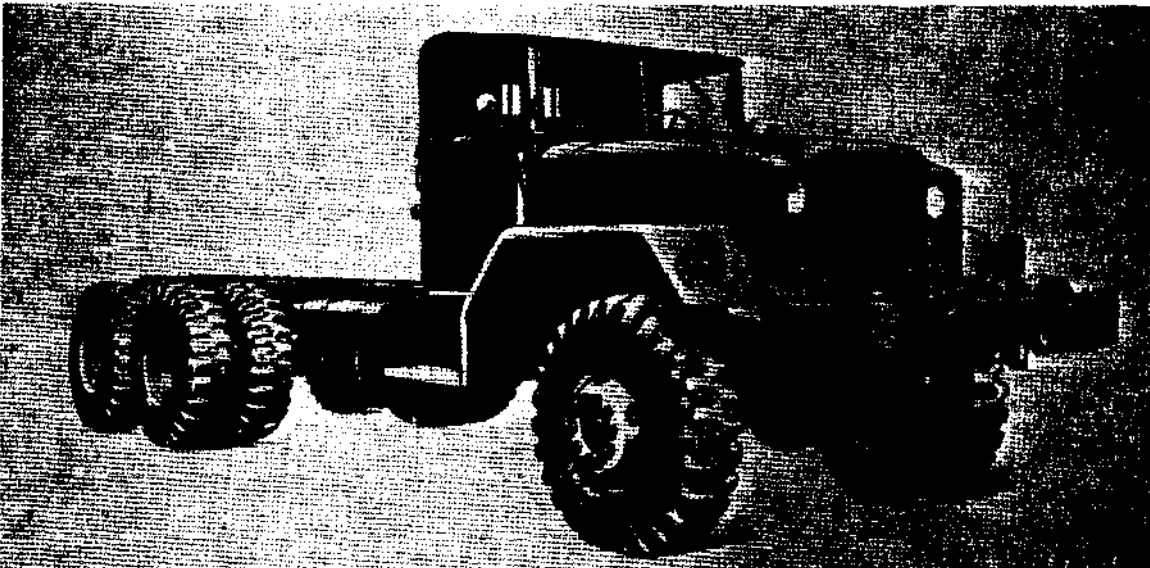

Figure 1. Truck, chassis, M39, M40, M61, M63, M139, - right front view
b. Models Covered. This manual covers the 5-ton, 6 x 6, chassis trucks M39, M40, M40C, M61, M63, M139, M139C, M139D, and M139F; cargo trucks M41, M54, M54A1, M54A2, M55, and M55A2; dump truck M5, and M51 A2; tractor trucks M52, M52A1; tractor-wrecker truck M246; and medium wrecker trucks M62, M543 and M543A2 (fig. 1 through 19). These vehicles are six-wheel trucks equipped with one driving front axle, a driving forward rear axle and a driving rear-rear axle.
dium wrecker trucks M62, M543 and M543A2 (figs. 1 through 19). These vehicles are six-wheel trucks equipped with one driving front axle, a driving forward rear axle and a driving rear-rear axle.